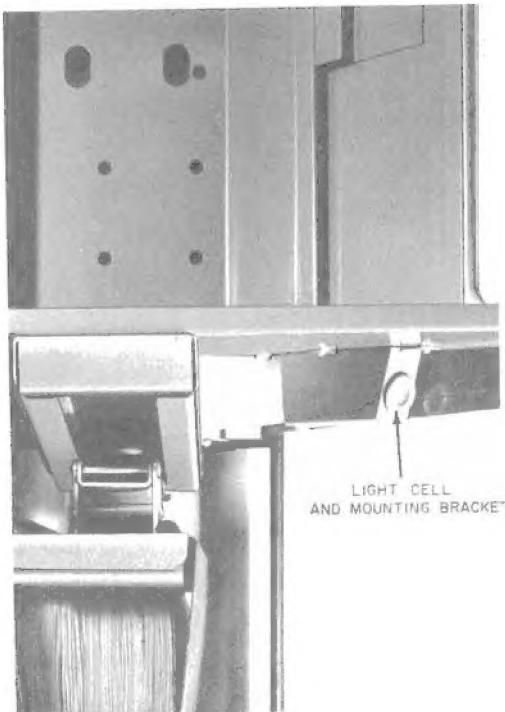

Fig. 18—Installation of Light Cell Mounting Bracket on KS-19426 Mounting
- (i) Secure the bracket to the bottom of the housing as shown in Fig. 18.
- (1) Slide light shield over the panel retaining channels and verify that shield is seated properly against gasket. Ensure that back edge of shield is engaged in KS-19426, List 34 top assembly, or B-564418 subset cover assembly (whichever is applicable).
- (2) Install shield retainer bar across top of housing using four No. 10-24 by 1/2 tamper proof screws, and KS-19192, List 1 wrench